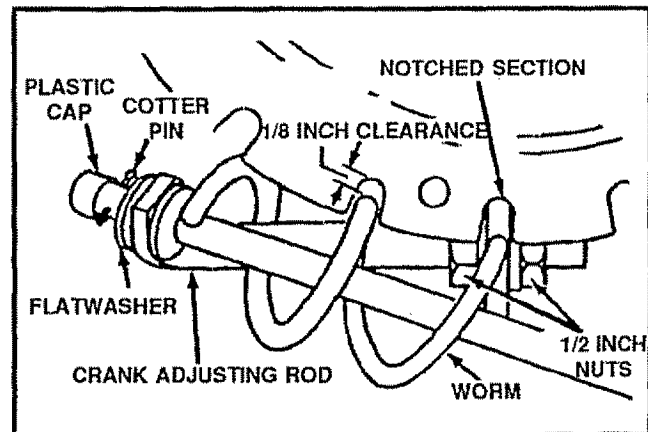

FIG. 5
- Remove the plastic cap, the cotter pin and the washer from the wormed end of the crank assembly and set aside (See Fig. 5).
- Install the wormed end of the crank through the hole in the adjusting rod and secure the end with the flat washer and cotter pin, as shown in Fig. 5.
- Rotate the chute crank fully clockwise and fully counter-clockwise. The discharge chute should rotate fully to the outer diameter of the worm and should clear approximately 1/8" (see Fig. 5). If the chute crank needs to be adjusted, go to the Service and Adjustments section on page 17.